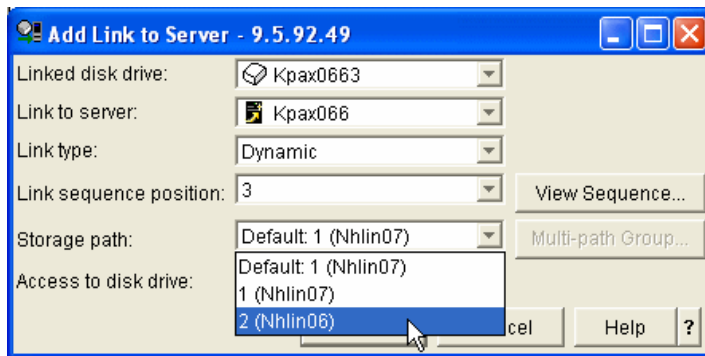

Figure 9-66 Redeploying a virtual disk to a different storage path (target HBA)
6. To redeploy the virtual disk to a different target HBA, right-click it and select **Add link**. The panel in Figure 9-66 on page 439 appears.